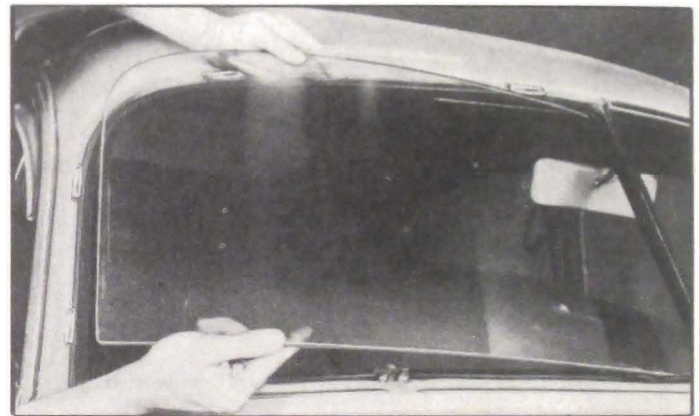

Figure 13-34—Removal or Installation of Windshield Glass—1949 Series 50-70
8. Disengage glass from rubber channel and carefully lift it out of opening, working on outside of body. See figure 13-34.
3. Holding the glass as shown in figure 13-34, first insert the straight end of glass into the groove of the windshield glass channel at the center division, then lower the glass flat against the balance of the channel.